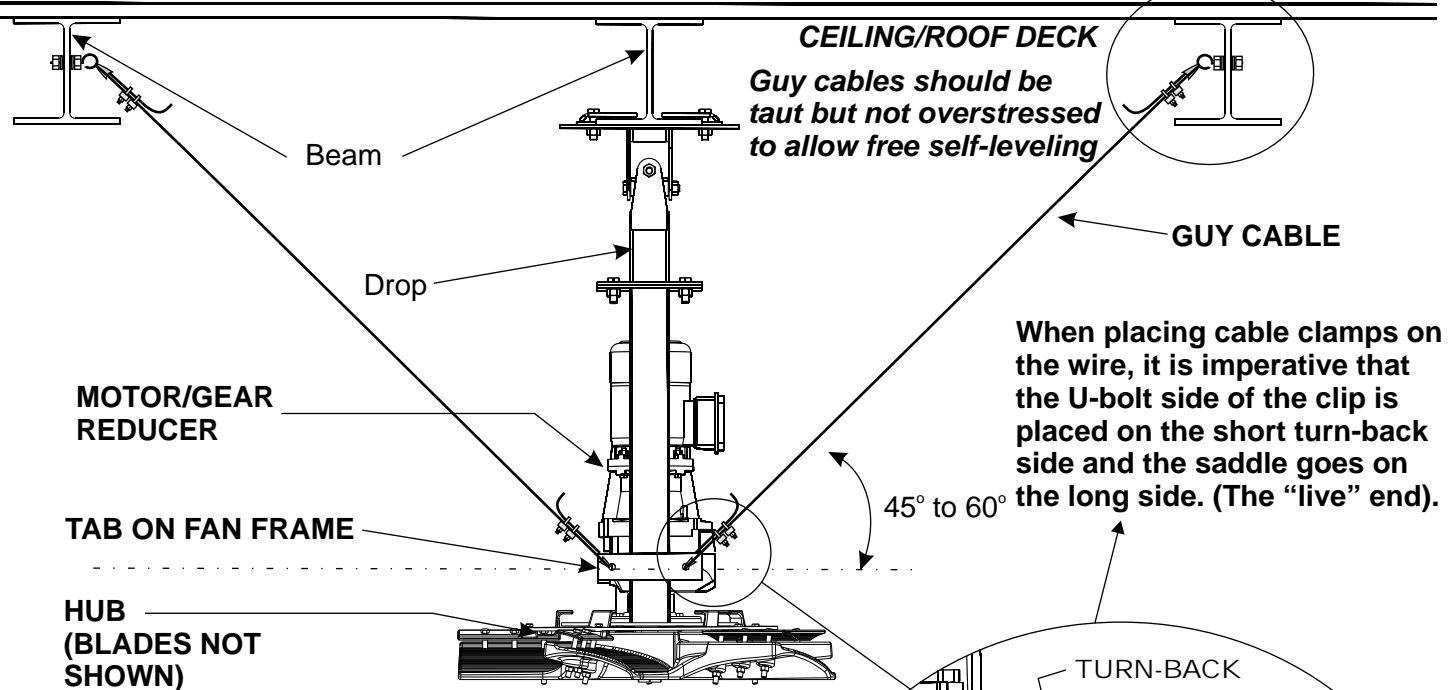
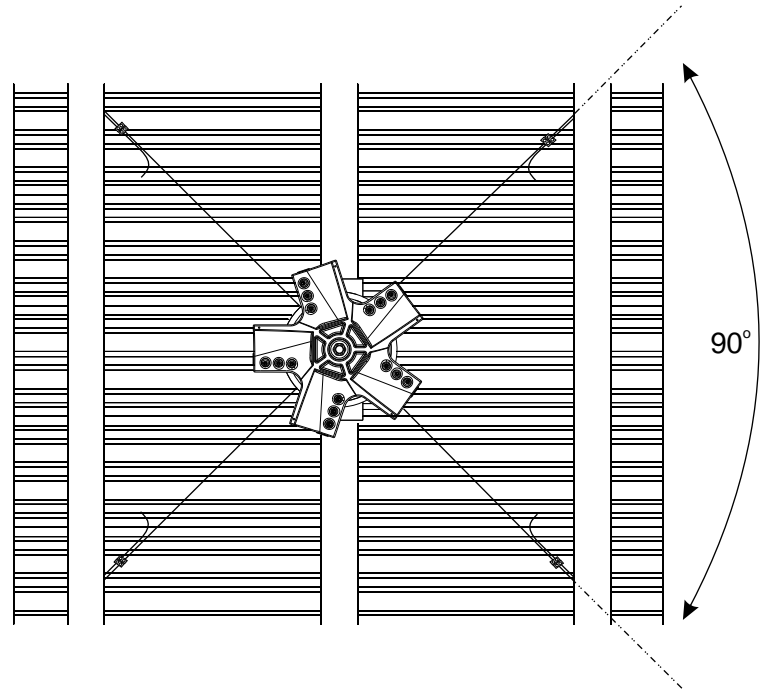

Fig. 15
Fig.17
STRUCTURAL NOTE: Guy cables must be installed or fastened to a structural component of the building at the angle shown in Fig.15 and Fig.17.
2. Install eye bolt with nuts and washers in I Beam as per Fig.15.
5. Guy wires should be taut but not overstressed to allow free self-levelling. They should also be approx. 90° apart (Fig.17).
2. Guy wire installed as per Fig.15, Fig.16 and Fig.17 in the *Altra-Air Fan Installation Guide*.